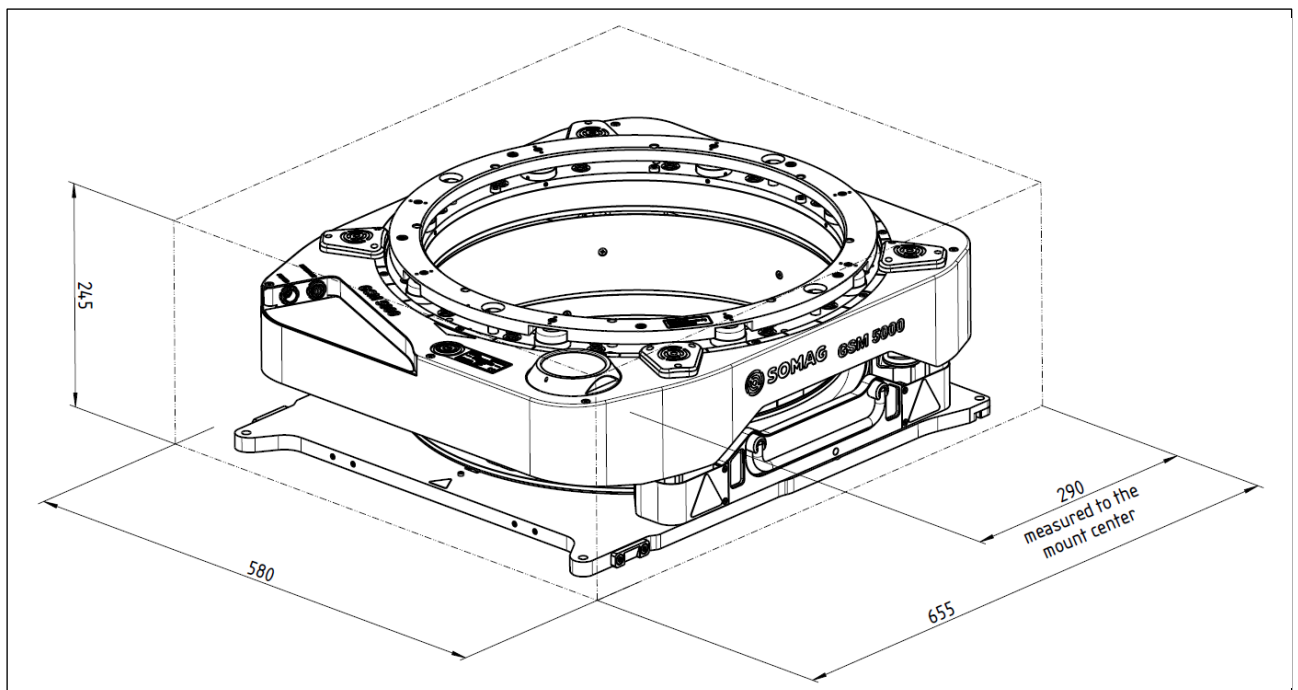

Figure 8: Movement space around the GSM 5000
- Make sure that the movement space area (see Figure 8) is clear of objects.